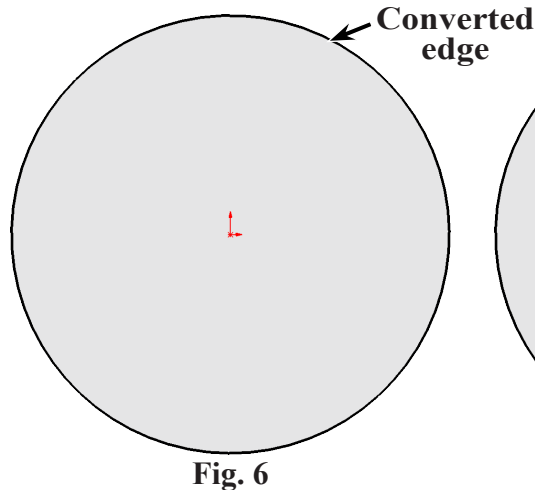
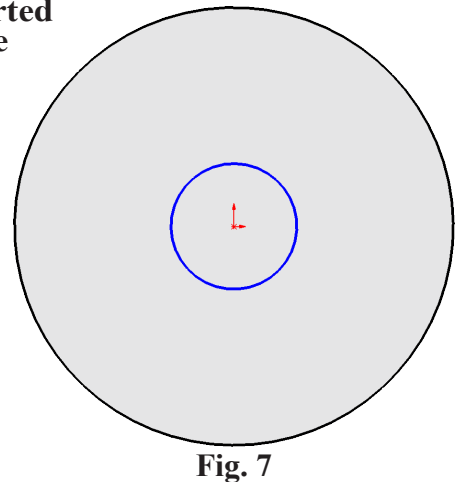

Fig. 6
Fig. 7
Step 3. With the face still selected, click **Convert Entities**  on the Sketch toolbar, **Fig. 6**.
Step 4. Click **Circle**  (S) on the Sketch toolbar.
Step 5. Sketch circle at the **Origin** , **Fig. 7**.